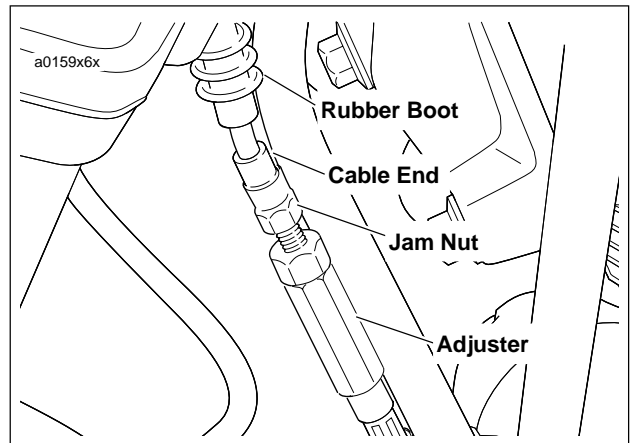

Figure 1-11. Clutch Cable Adjuster Mechanism
3. See Figure 1-11. Slide rubber boot (1) upward to expose adjuster mechanism. Loosen jam nut (3) from adjuster (4). Turn adjuster to shorten cable housing until there is a large amount of freeplay at clutch hand lever.
- b. See Figure 1-11. Set freeplay by turning adjuster.